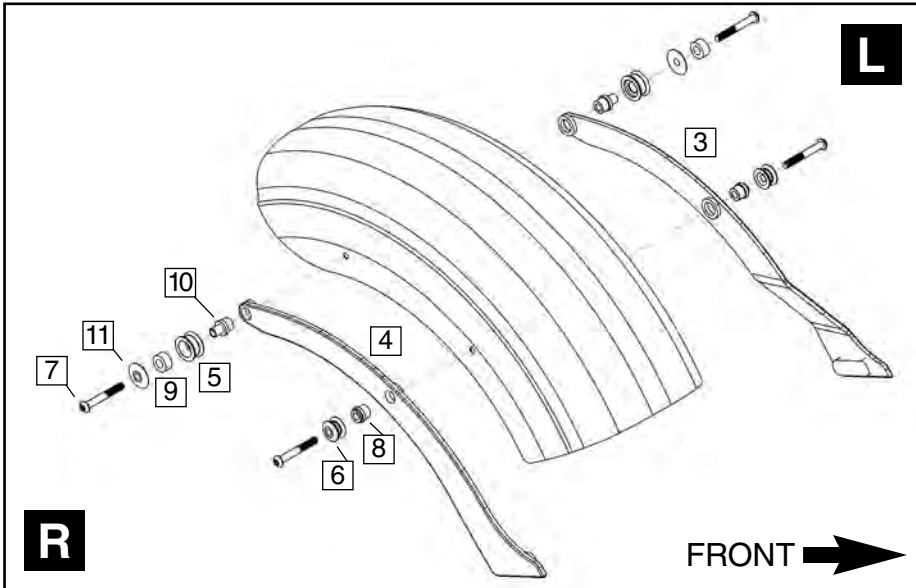

Figure 1
2. Continue on the right side by assembling Front and Rear Spool Assemblies and inserting them through the Fender Eyebrow (4) into the threaded holes in the OEM fender struts. Do not fully tighten. This will allow some movement which aids in the final installation of the Paladin Backrest Side Plates on next page. **(5mm Hex Wrench, Thread Lock)**
**Figures 1 and 2**
3. Repeat steps 1-2 for the left side with Front and Rear Spool Assemblies and Fender Eyebrow (3). **(5mm Hex Wrench, Thread Lock)** **Figures 1 and 2**